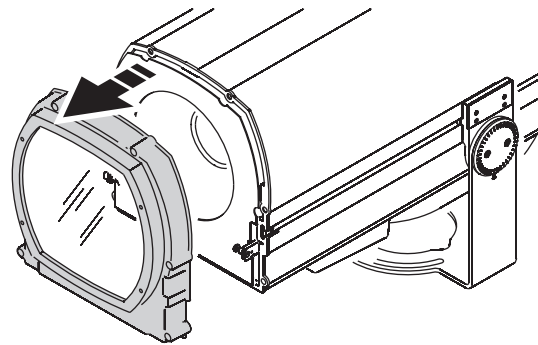

Figure 18: Removing the front cover and seal
- See Figure 18. Loosen the six Allen head screws holding the front cover and remove the cover and its rubber seal. Avoid damaging the seal during removal.